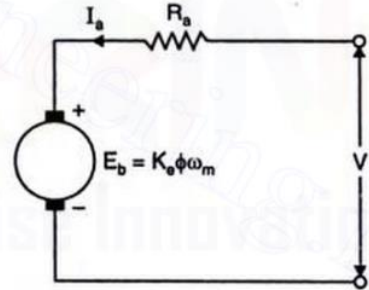

Fig. 5.4. Steady state equivalent circuit of the armature of a D.C. machine.
**Steady state equivalent circuit of armature of a D.C. machine.** The steady state equivalent circuit of armature of a D.C. machine is shown in Fig. 5.4.